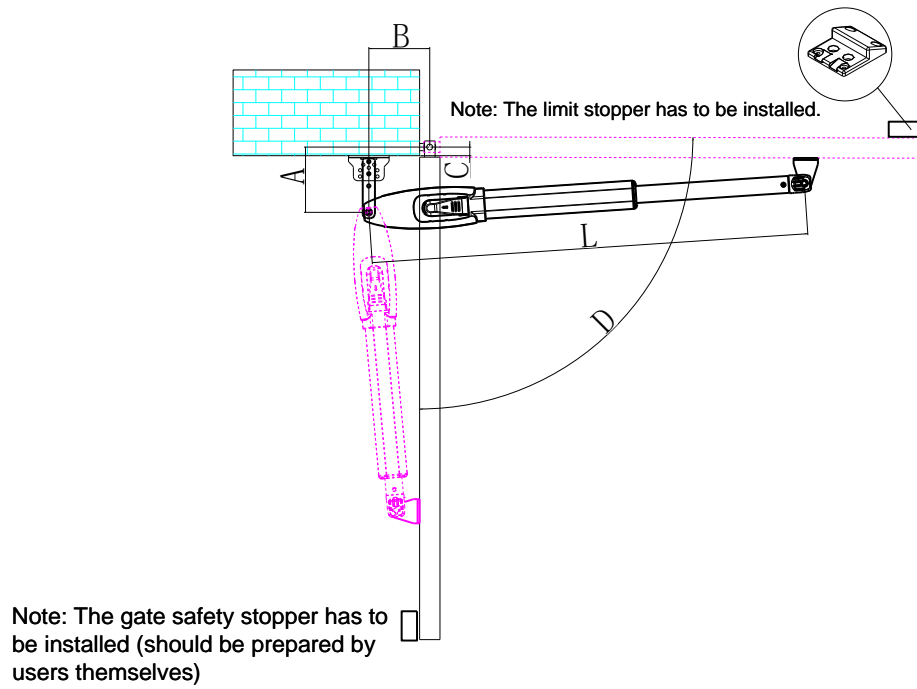
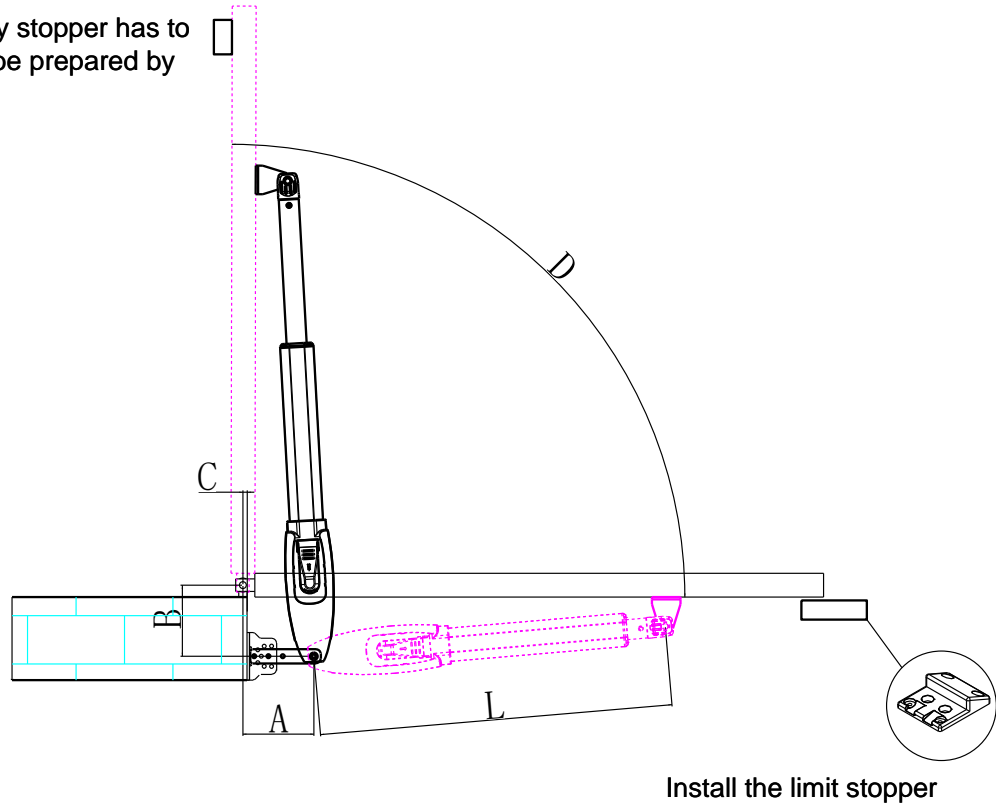

Figure 8
Figure 9
- To ensure safety and protect the machines, please install a gate stopper at the open limit position when the door opens outward to prevent the gate from running over its travel. Meanwhile, to enable the 2 swings to close to its accurate limit position, please install a limit stopper at the close limit position (as shown in figure 9). Similarly, when the door opens inward, please install a limit stopper at the close limit position (as shown in figure 8).